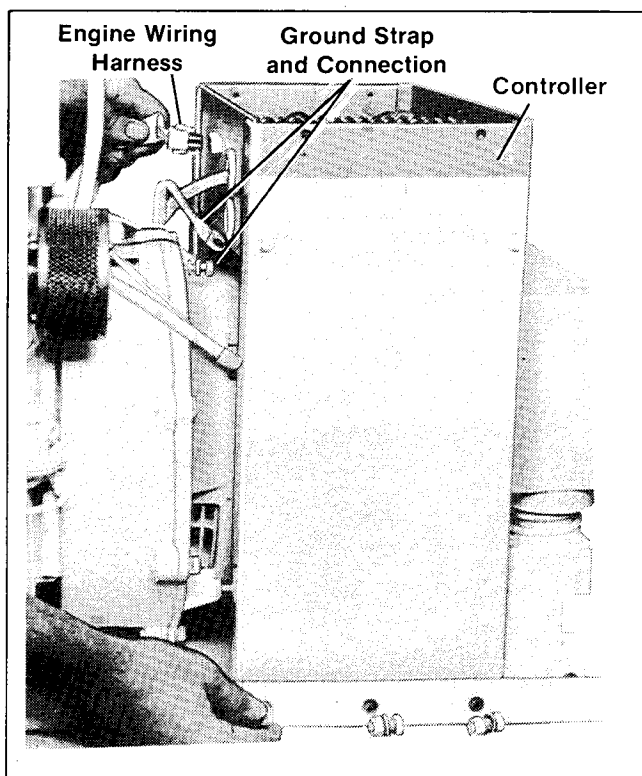

Figure 6-1. Disconnecting Wiring
3. Disconnect the generator ground strap at the engine/generator adapter (Figure 6-1).
4. Remove engine wiring harness from the rear of the controller (Figure 6-1).